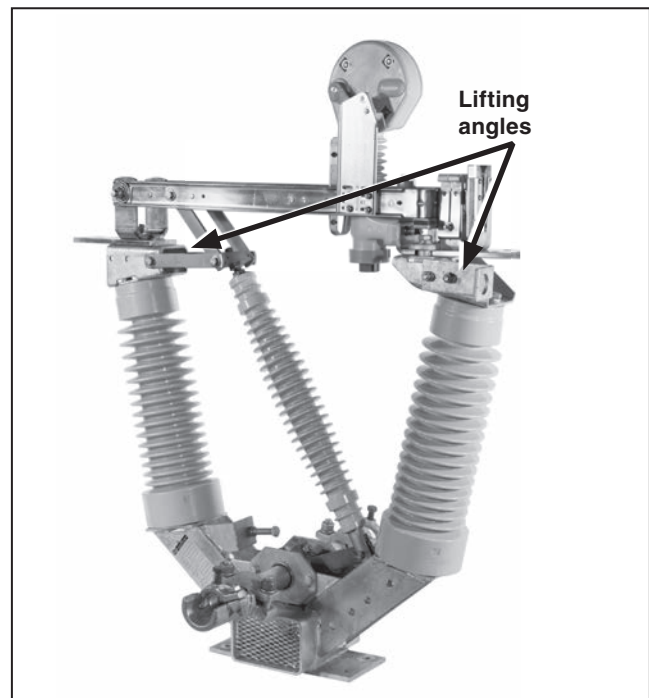

Figure 5. Hoisting the switch pole into position.
STEP 4. Hoist the switch poles using the lifting angles provided and bolt them into position on their supporting members as shown on the erection drawing. See Figure 5.